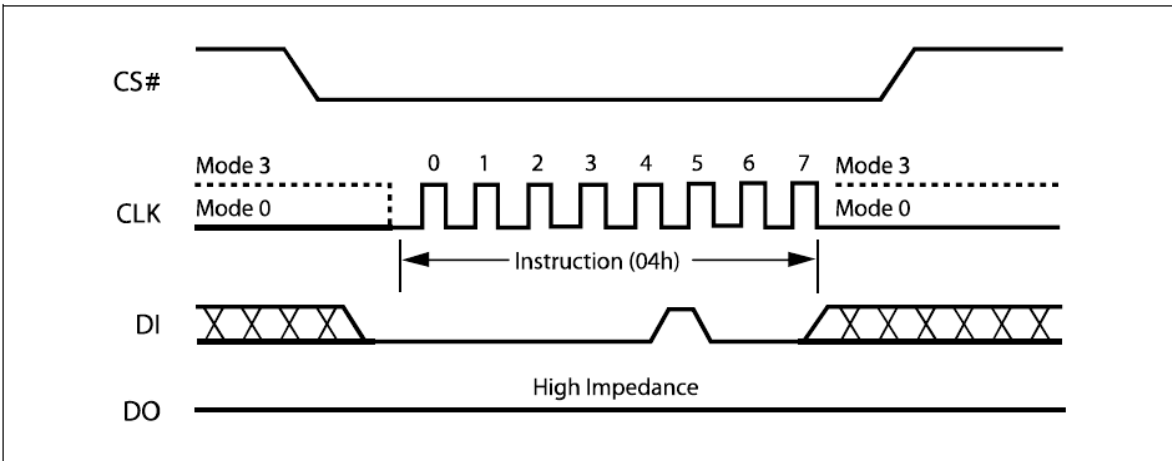

Figure 10. Write Disable Instruction Sequence Diagram
The Write Disable instruction (Figure 10) resets the Write Enable Latch (WEL) bit in the Status Register to a 0 or exit from OTP mode to normal mode. The Write Disable instruction is entered by driving Chip Select (CS#) low, shifting the instruction code “04h” into the DI pin and then driving Chip Select (CS#) high. Note that the WEL bit is automatically reset after Power-up and upon completion of the Write Status Register, Page Program, Sector Erase, Half Block Erase (HBE), Block Erase (BE) and Chip Erase instructions.
The Read Status Register (RDSR) instruction allows the Status Register to be read. The Status Register may be read at any time, even while a Program, Erase or Write Status Register cycle is in progress. When one of these cycles is in progress, it is recommended to check the Write In Progress (WIP) bit before sending a new instruction to the device. It is also possible to read the Status Register continuously, as shown in Figure 10.